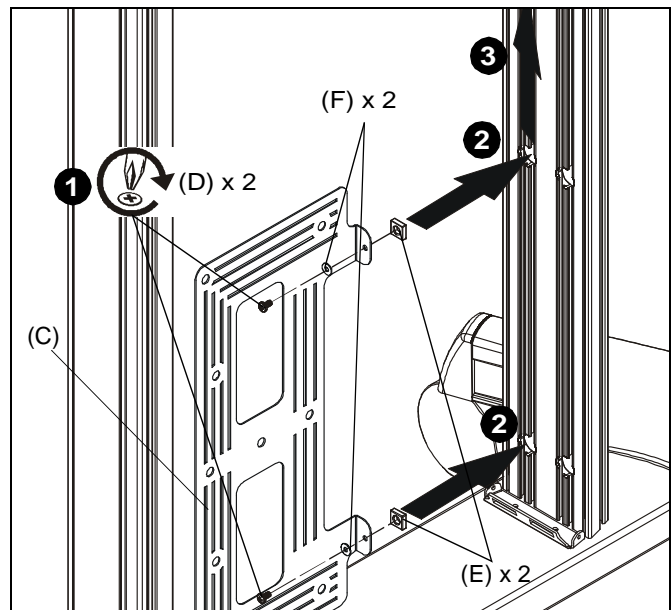

Figure 6
1. Loosely install two #10-24 x 3/8" Phillips head machine screws (D) through two #10 washers (F), holes in component bracket (C) and into two #10-24 square nuts (E). (See Figure 6)
2. Insert two #10-24 square nuts (E) into two openings on column channel. (See Figure 6)
3. Lift component bracket (C) to desired mounting position. (See Figure 6)
4. Tighten screws to secure in position. (See Figure 6)